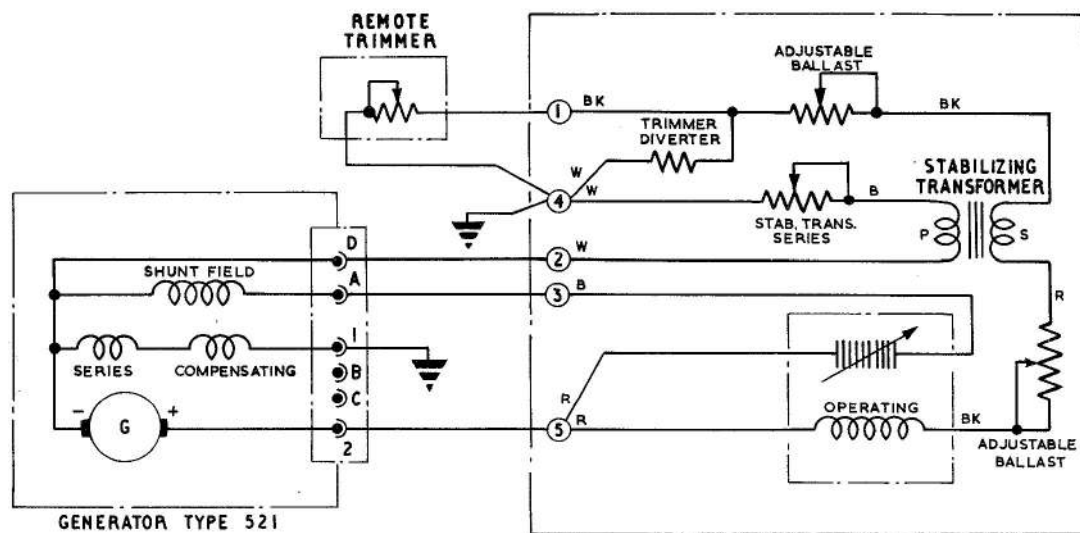

Fig.3 Circuit diagram
5. A stabilising transformer is fitted to maintain the stability of the generator during sudden changes of speed or load. It is connected as shown in fig.3 with the primary winding across the generator series field, and the secondary winding in series with the operating coil. Under stable conditions no voltage is induced in the secondary winding, but when the generator speed or load changes suddenly a voltage will be induced in the secondary winding so as to oppose the compensating effect of the operating coil, and so damp out any tendency towards oscillation.